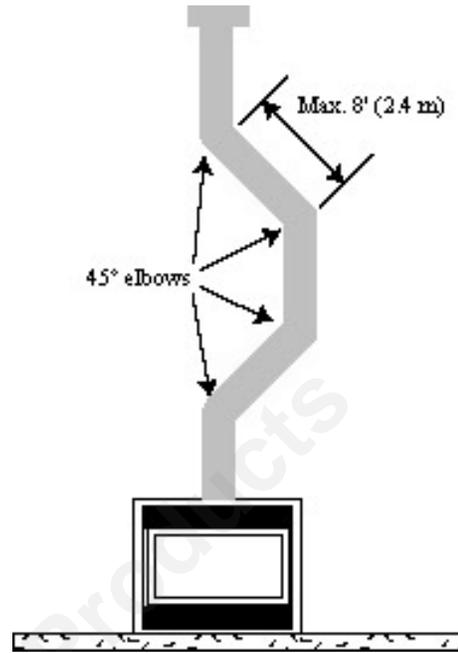

Fig. 30
- Two sets of 45° elbow offsets within these vertical installations. From 0 to a maximum of 8' (2.4 m) of vent pipe can be used between elbows. (Fig. 30)